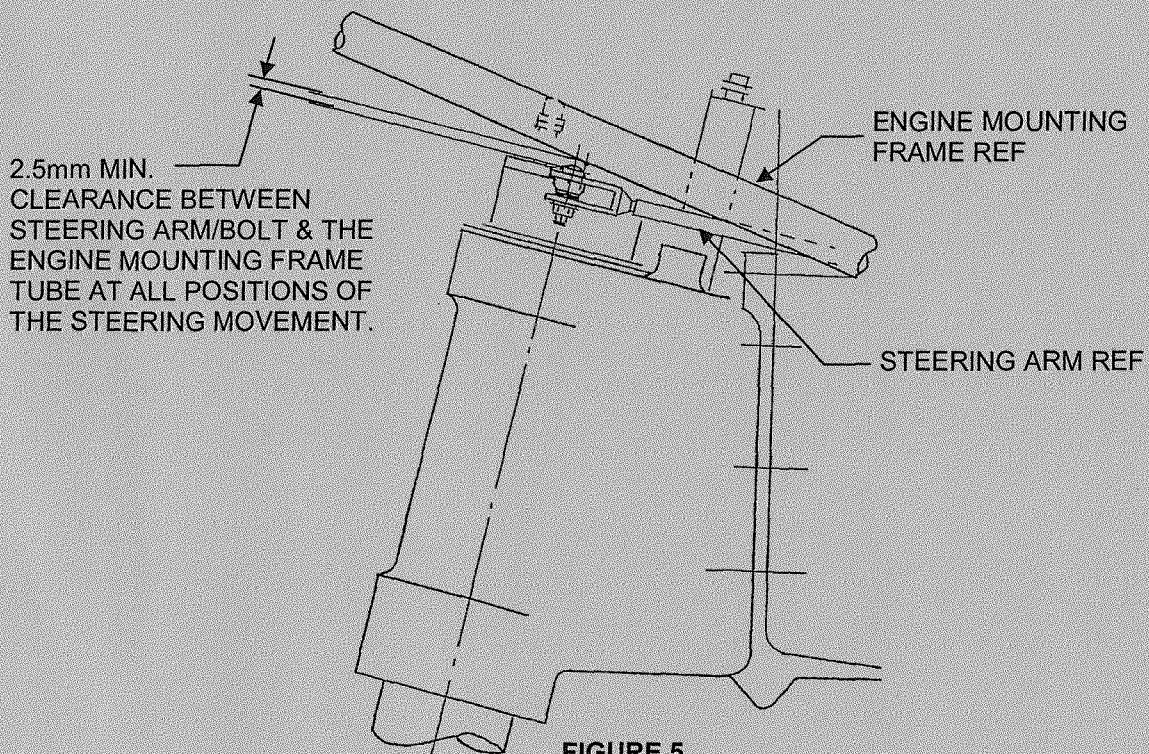

FIGURE 5
18. Ensure on aircraft fitted with the Fairey Hydraulic undercarriage, (Post Mod M468 or Mod M791), that there is a minimum clearance of 2.5mm with steering linkage to engine mounting frame, see Figure 5. Ensure there is no damage to engine mounting frame if clearance is less than 2.5mm. If engine mounting frame is damaged then aircraft must not be flown until damage is rectified, consult SACL. Also if clearance is less than 2.5mm embody Mod M575 "Introduction of Offset Steering Arm Pin – Ref Fairey Hydraulics Nose U/C", if Mod M575 is fitted and clearance is less than 2.5mm inform SACL.